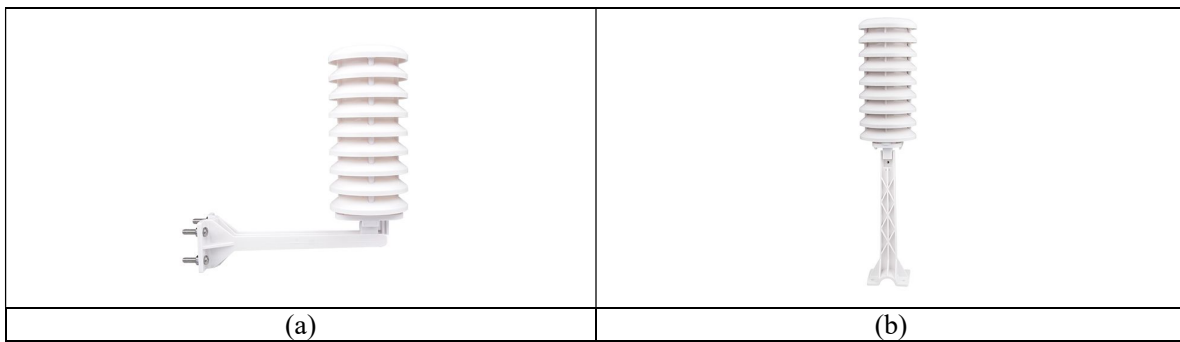

Figure 4
- We also have a separate accessory the WH31SRS which will provide protection for your sensor and allow installation in a wide array of locations. The WH31SRS can be installed in two different configurations reference Figure 4 (a) and (b)